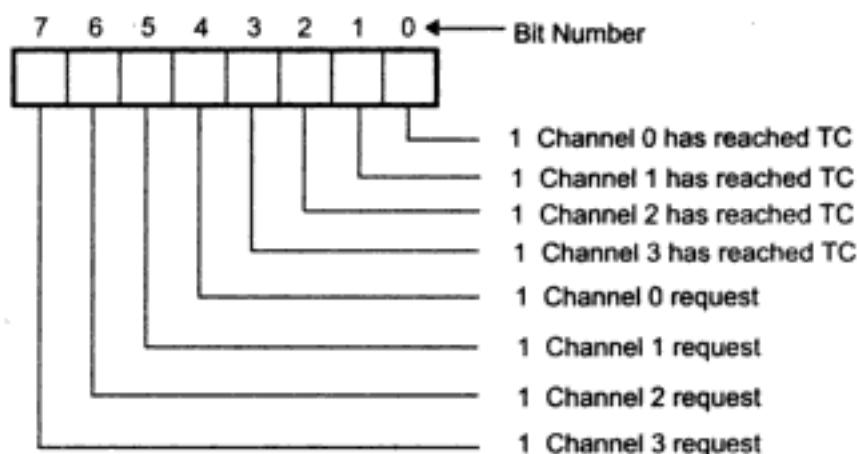

Fig. 6.22 Status register
8. Status Register : The status register contains the information about the status of the DMA channels. It includes which channels have reached a terminal count and which channels have pending DMA requests. The bit pattern for status register is shown in Fig. 6.22.